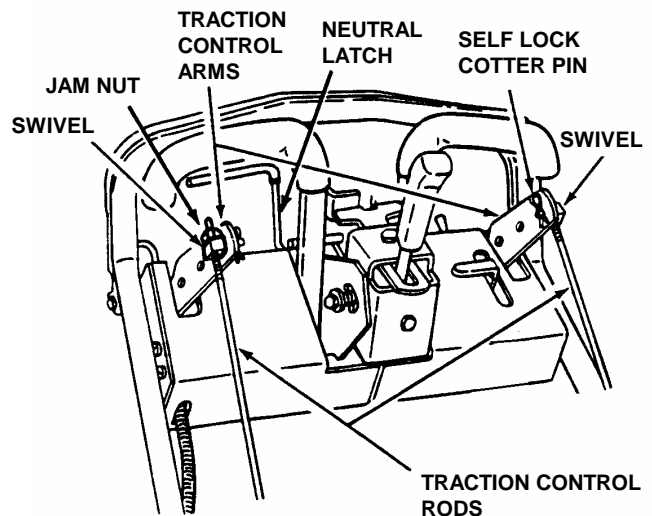

FIGURE 3.8
STEP 2: Place both Traction Levers in the Neutral position and engage Neutral Latch. See Figure 3.8.
STEP 4: Disconnect the swivel from the right and left traction control arms and loosen swivel jam nuts. See Figure 3.8.